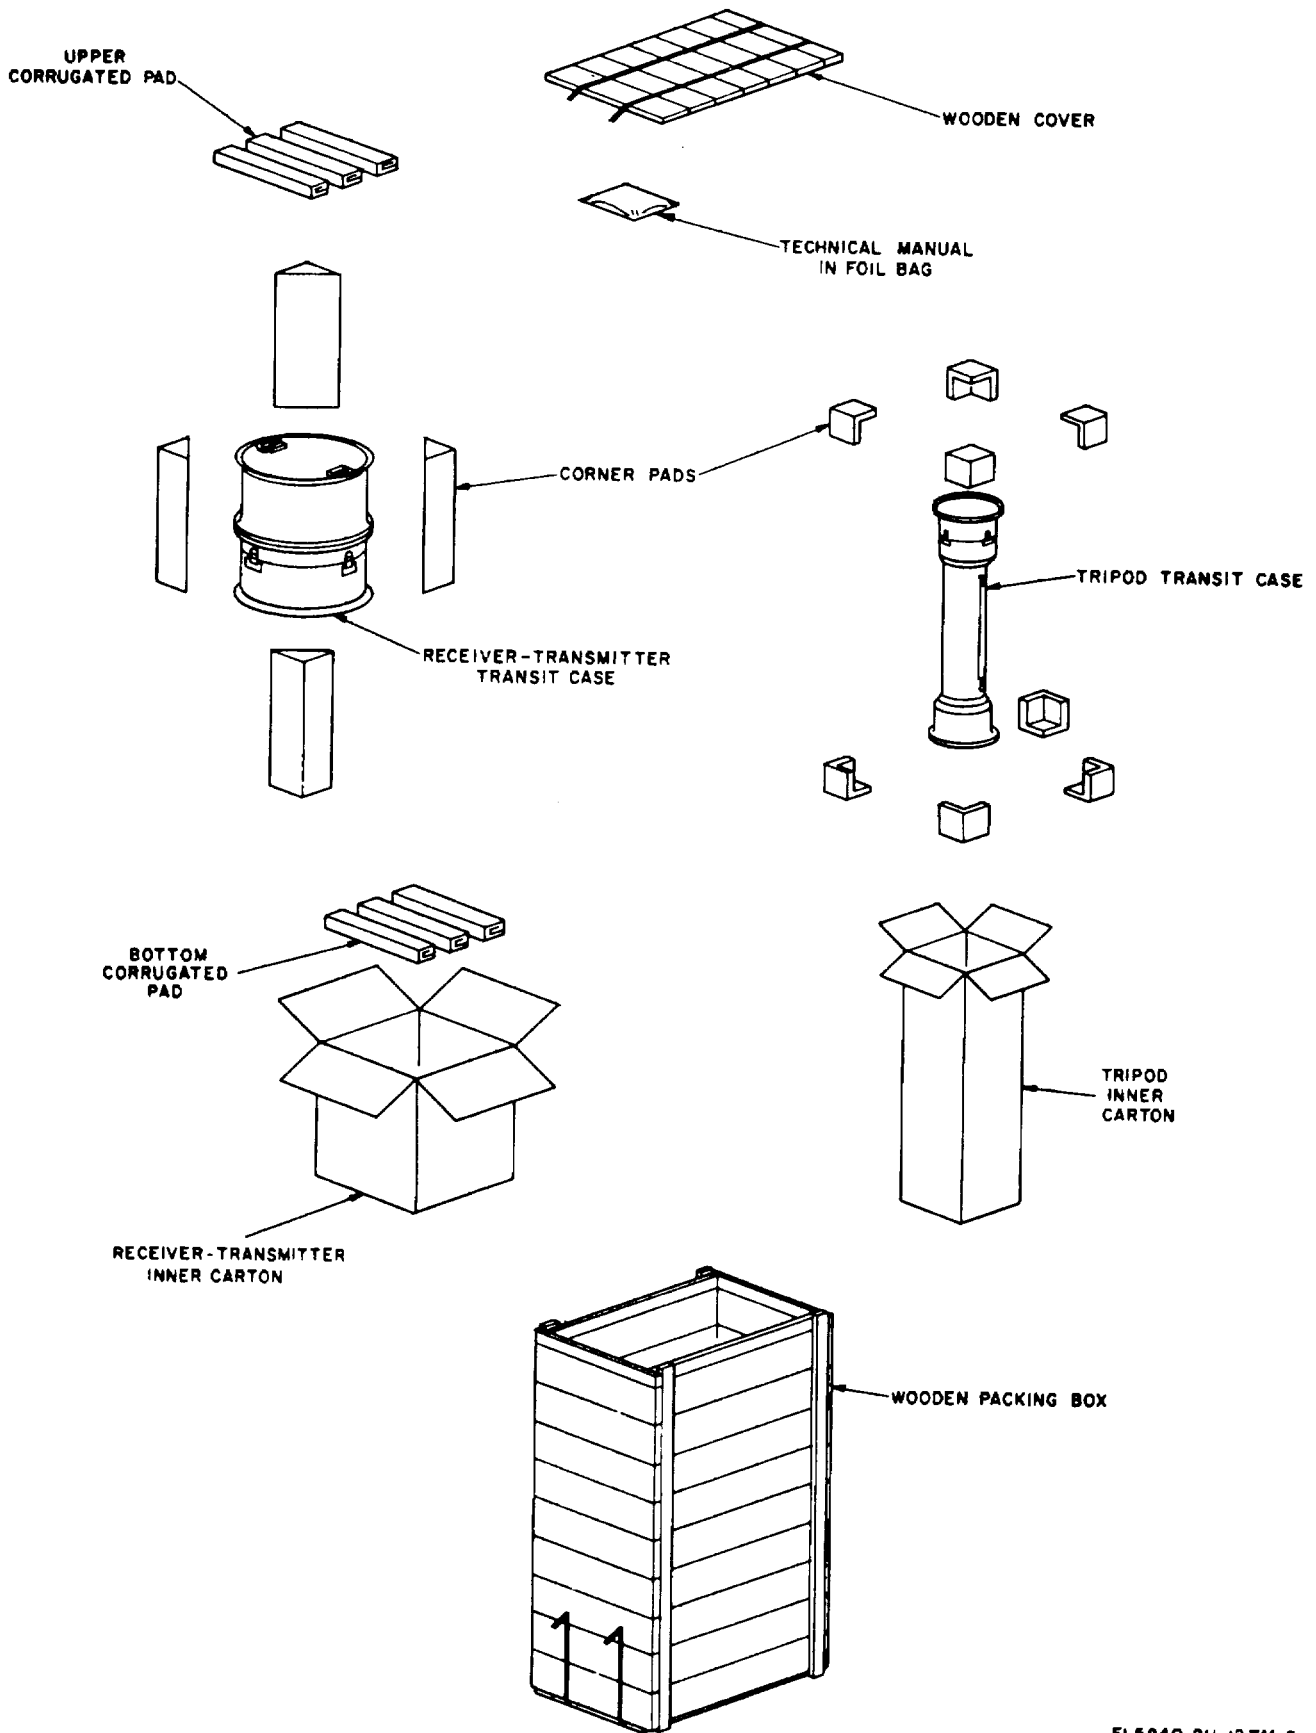

Figure 2-1. Typical packing
a. Packaging Data. When packed for shipment, the components of Radar Set AN/PPS-4A are placed in two transit cases. Each transit case is packed in a carton, and the two cartons are packed in a wooden crate 37 inches by 24 inches by 50 inches, with a volume of 25.1 cubic feet, and a weight of 148 pounds. A typical shipping box and its contents are shown in figure 2-1.
b. Removing Contents. Perform the steps in (1) through (4) below to remove the equipment transit cases from the wooden crate. Refer to paragraph 2-2 for instructions for removing the equipment from the transit cases.
- (1) Cut and fold back the metal straps.
- (2) Remove the nails from the top and one side of the box with a nailpuller. Remove the top and one side.
- (3) Remove two cartons that are inside the crate.
- (4) Open the cartons and remove the transit cases.